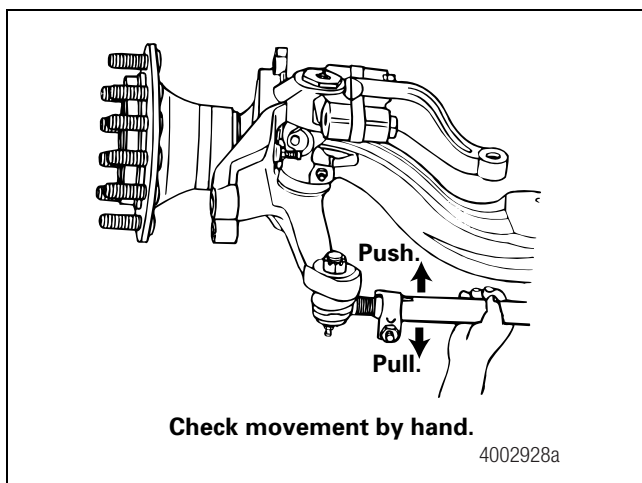

Figure 3.7
10. Apply hand pressure of approximately 100 pounds (45 kg) in a vertical PUSH-and-PULL motion several times. Check for any movement or looseness at both tie rod ends. Figure 3.7.